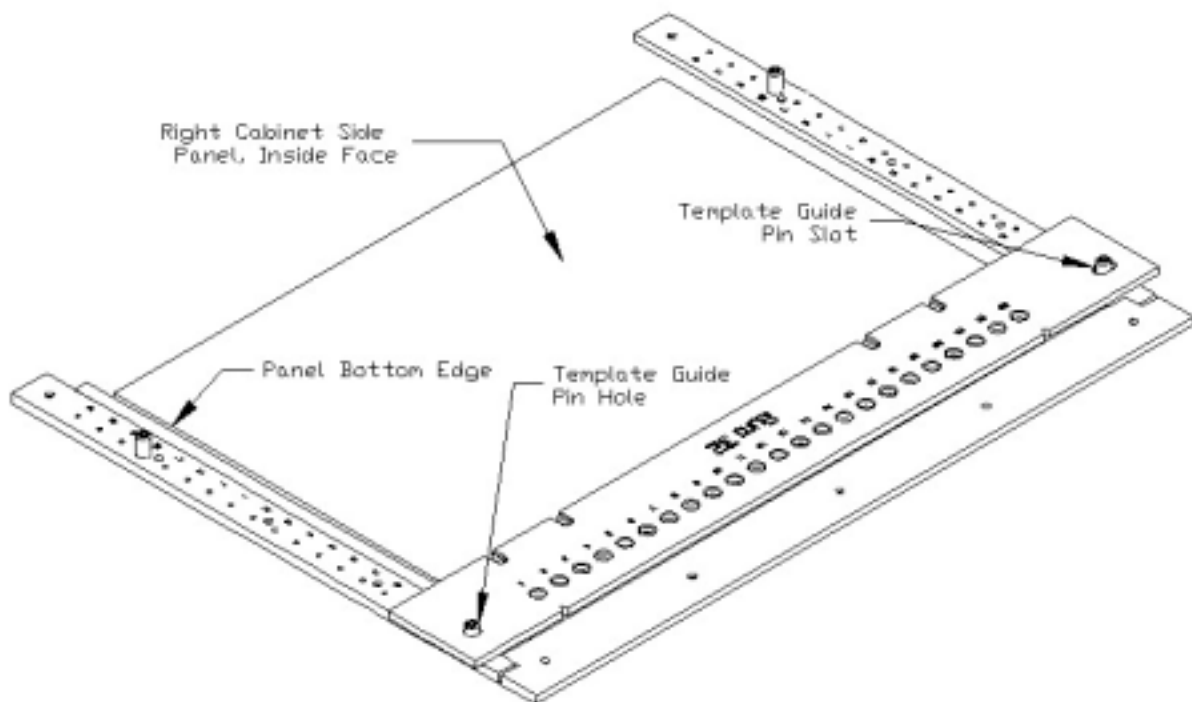

Figure 33
2. Rotate the hole-boring template 180° around so that the guide-pin hole is on the left and position it onto the guide-pin located in position “A” of the left guide-rail and the slotted hole is positioned onto the guide-pin located in position “A” on the right-guide rail as shown in Figure 33.